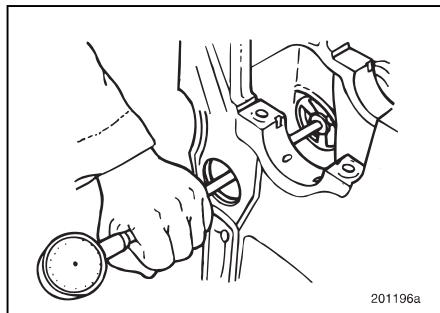

Figure 6-4 — Measuring Camshaft Bushing ID
1. Using a telescope gauge or suitable inside micrometer, measure the ID of each camshaft bushing in the cylinder block. Record the dimensions. Refer to Figure 6-4.